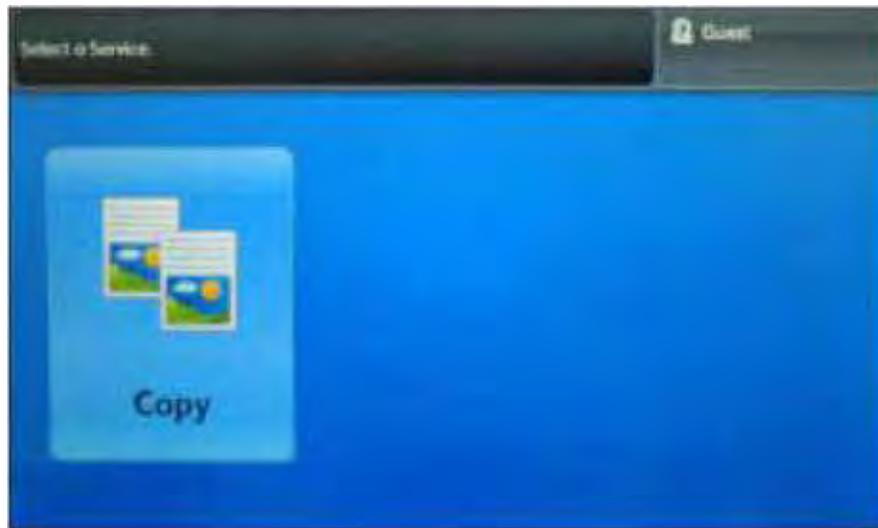
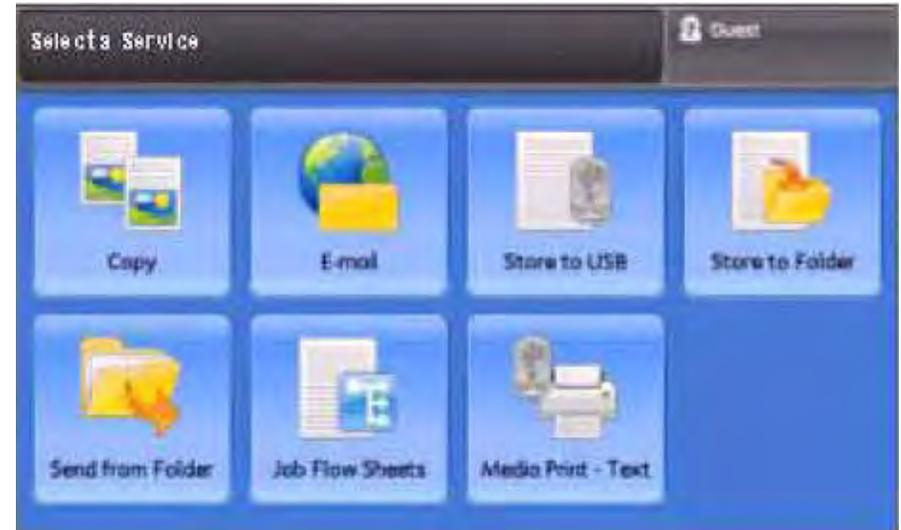

Figure 11 Copier Select a Service Screen
Figure 12 MFP Select a Service screen
10. (Figure 11 and Figure 12) The Select a Service screen (main menu) will show either the Copy function only (if copier-only) or multiple functions (if an MFP). The Select a Service screen confirms the correct version of the machine configuration (copier or MFP).